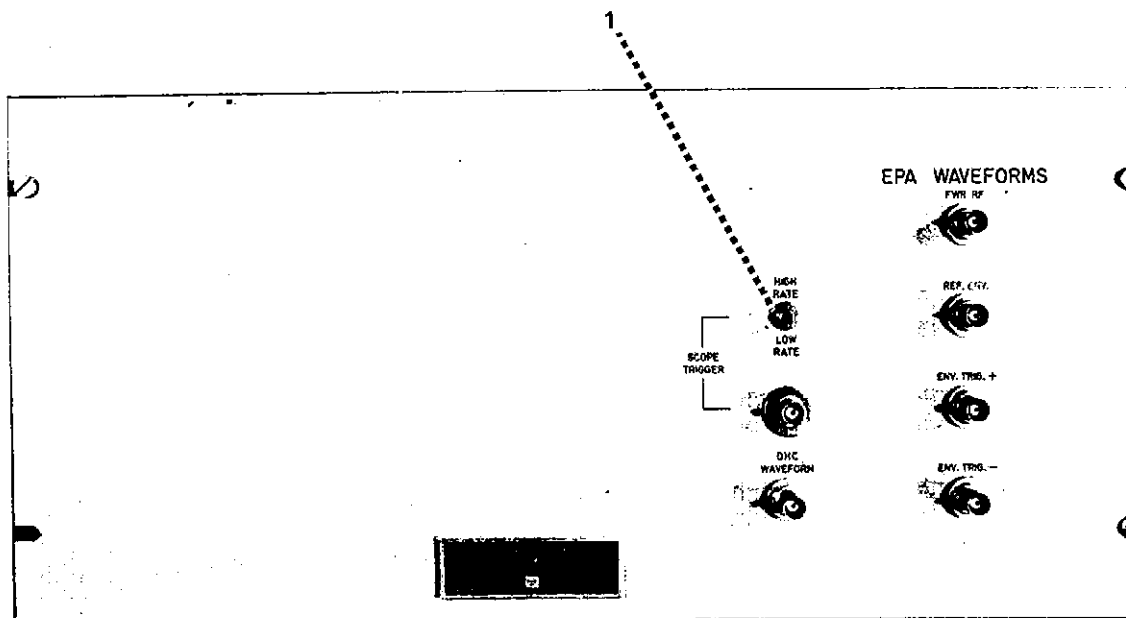

Figure 3.5. Waveform Panel Control
3.2.5 Waveform Panel. The Waveform Panel (Figure 3.5) has the following control: